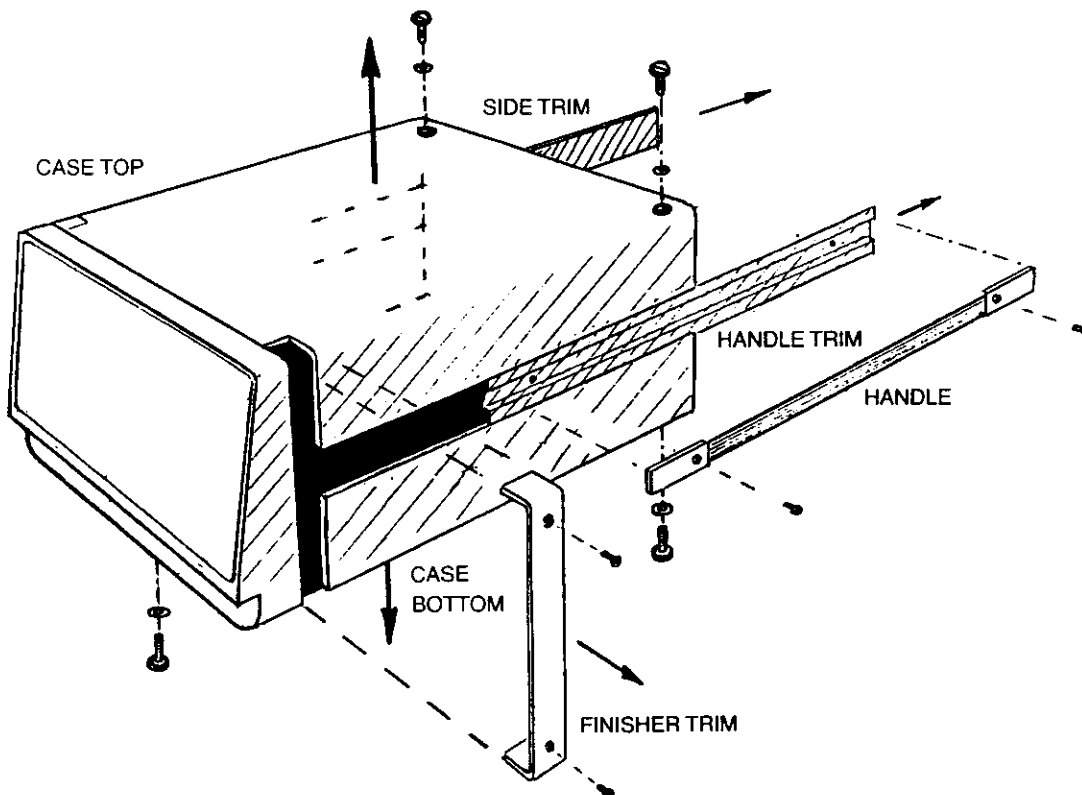

Fig. 2.9 Removal of trims, handle, top and bottom cases
- I. Remove the following items from the unit, as shown in Fig. 2.9: